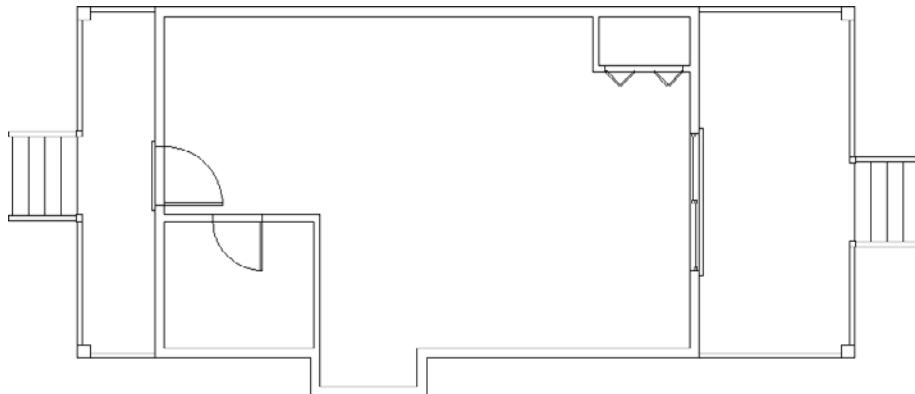

FIGURE 6.60 The cabin with the Roof and Fixtures layers frozen
10. The Roof and Fixtures layers are frozen again (see Figure 6.60), and Floor Plan appears in the Layer State drop-down list.